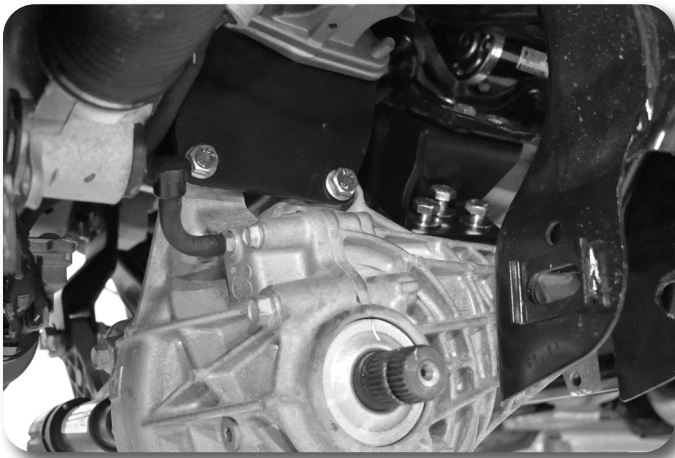

Figure 34
59. Attach the drivers side rear bracket to the differential with 12mm x 40mm bolts and washers BP #470. Attach the differential to the driver's side front bracket and passenger's side bracket with 12mm x 60mm bolts, nuts and washers. Leave all differential hardware loose. Figure 34